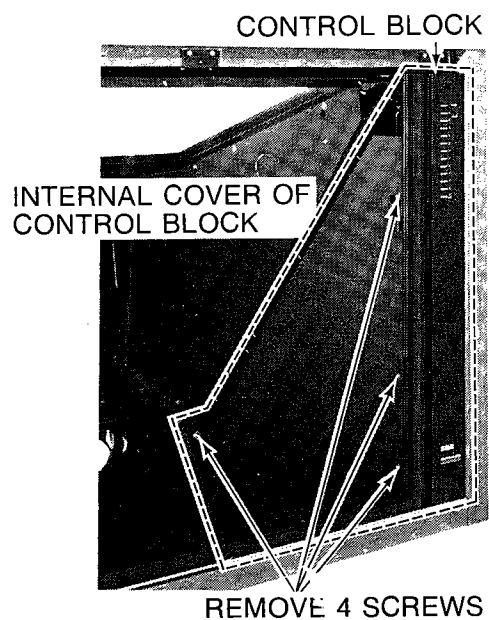

Fig. 13f — Internal Control Block Cover
2. Remove four (4) screws (Fig. 13f).